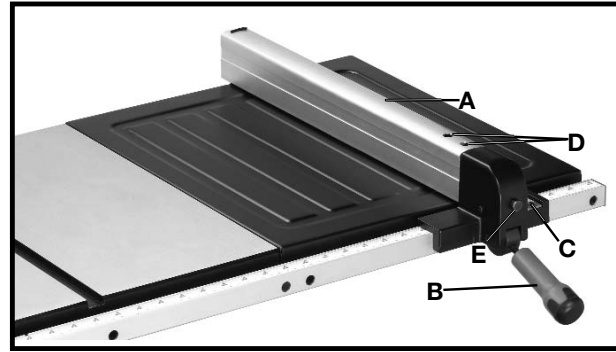

Fig. 40
1. To move the rip fence (A) Fig. 40, along the table, lift up fence locking lever (B), slide the fence to the desired location on the table and push down fence locking lever (B) to lock the fence in position.
2. A pointer is supplied to indicate the distance the fence is positioned away from the saw blade. If an adjustment to the pointer is required, loosen the screw (C) Fig. 40, that fastens the pointer to the fence bracket and adjust the pointer accordingly. Then, tighten screw (C).
7. Loosen the two 3/16 in. allen head screws (D) Fig. 40, and lift up locking lever (B). Then while holding the fence bracket firmly toward the front of the saw, move the rear end of the fence (A) until it is parallel with the miter gage slot. Then tighten two screws (D) and push down locking lever (B).
8. The clamping action of the fence (A) Fig. 40, can be adjusted by lifting up locking lever (B) and turning screw (E) clockwise to increase or counterclockwise to decrease the clamping action of the fence.